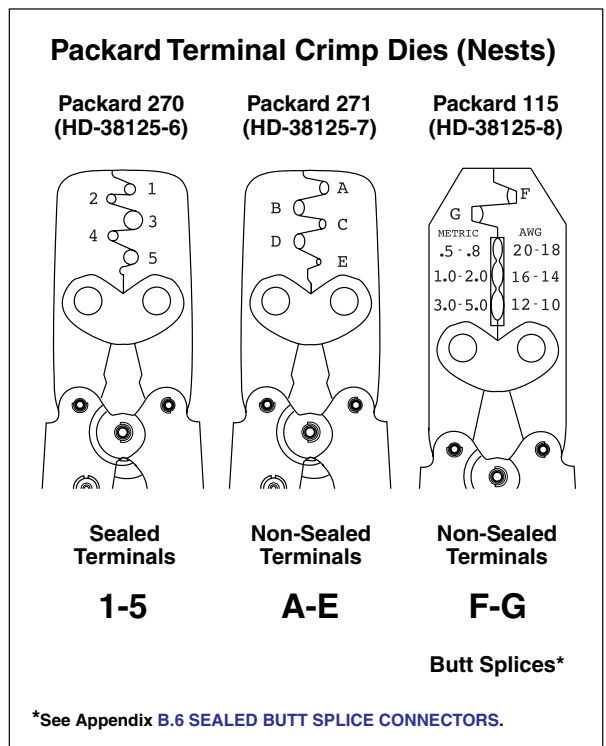

Figure B-36. Packard Terminal Crimp Tools
- See Figure B-36. Determine the correct die or nest for the core crimp.
8. See Figure B-36. Determine the correct die or nest for the insulation/seal crimp.